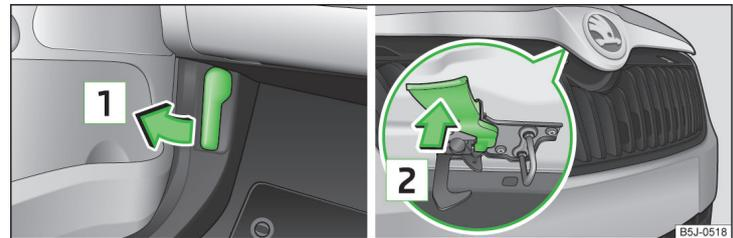

Fig. 124 Bonnet release lever/release lever
- Pull the release lever under the dash panel in the direction of the arrow **1** » Fig. 124.
Never open the bonnet by the locking lever » Fig. 124.